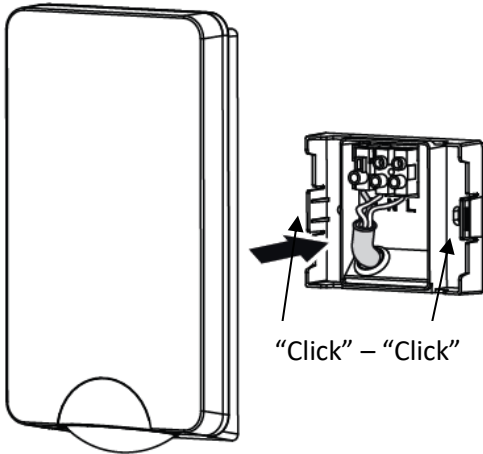

Fig. 4
- Align the two pins on the rear of the main body with the 2-pole terminal block on the mounting bracket and secure into place ensuring a double click is heard from the securing clips to indicate the fitting is fully secured to the bracket. (see Fig. 4)